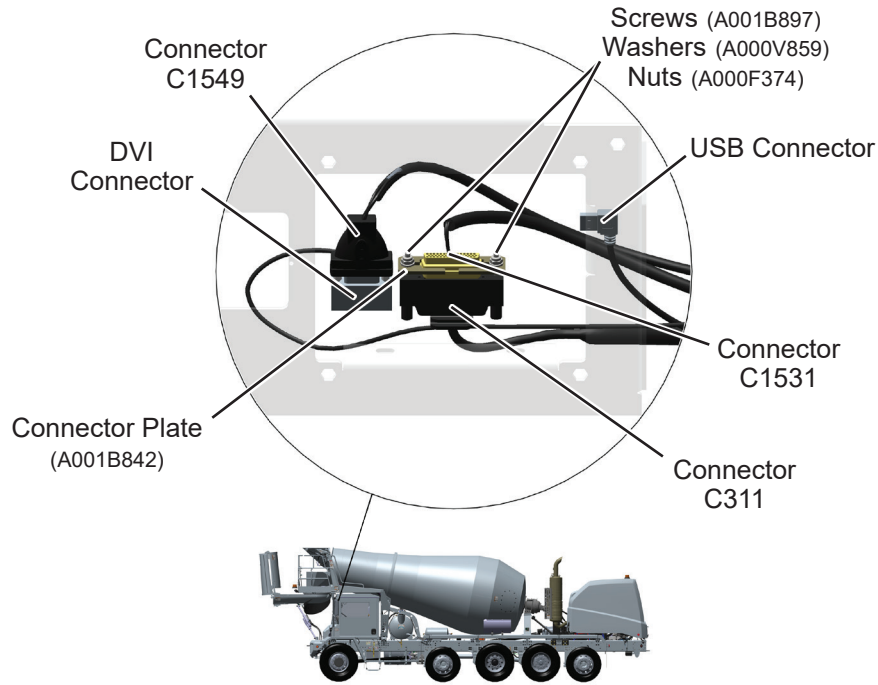

Figure 21
45. Locate connector C311 and DVI connector, that were disconnected from the Micronet display, through the right-hand overhead console access panel, See Figure 21.
46. Connect jumper harness connector C1549 to DVI connector. See Figure 21.
48. Connect jumper harness connector C1531 to connector C311. See Figure 21.
49. Install connector plate (A001B842), screws (A001B897), washers (A000V859), and nuts (A000F374) to secure connector C311 to C1531. Do not over tighten hardware and bend connector plate. See Figure 21.